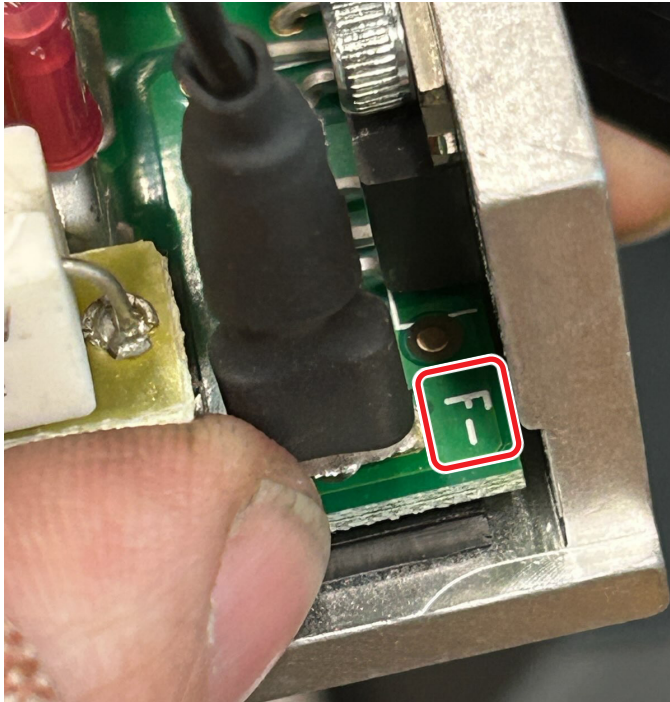

FIGURE 12—F- is indicated by the red rectangle.
- J. Each of your wires should have push-on connectors for a spade connector on them. The black wire connector is pushed onto the spade post “F-” (see Figure 12).